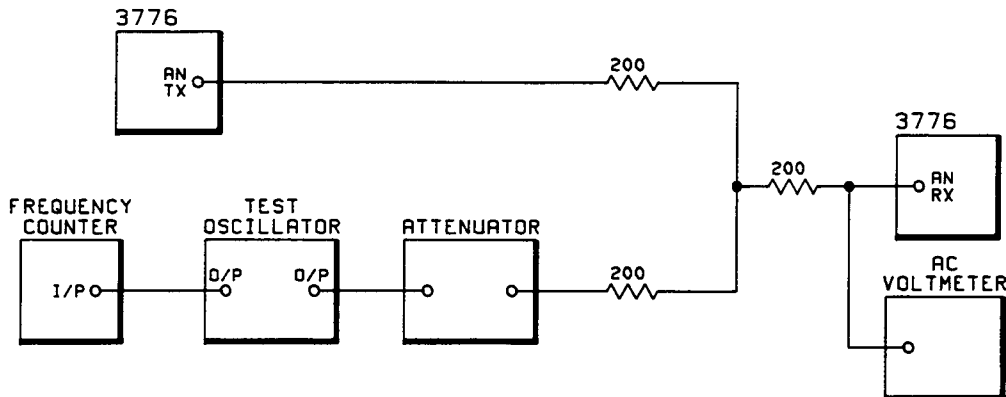

Figure 4-4 3776B Impulse Noise Threshold Range and Threshold Accuracy and Test Set-up
1. Connect up the test circuit as shown in Figure 4-4 with the Attenuator set to 0dB.